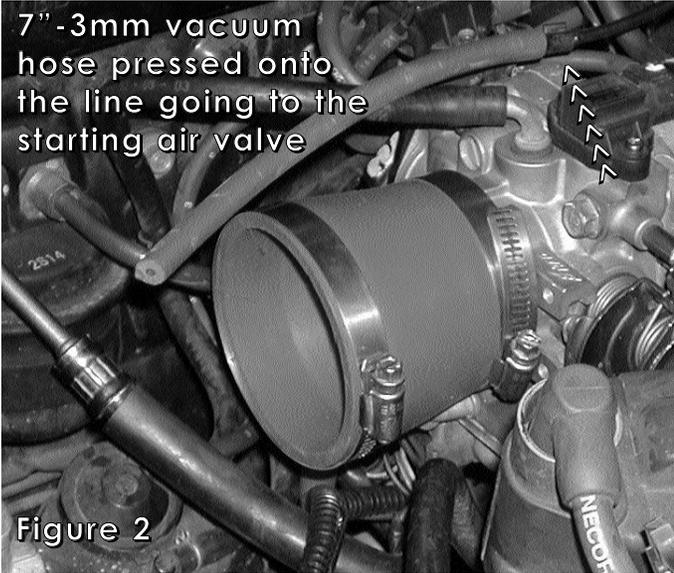

Figure 2
- 4- Place the 7"-3mm vacuum hose on the small tube over the throttle body as seen in figures 2 and 7. This line leads to the starting air valve (refer to diagram A).**